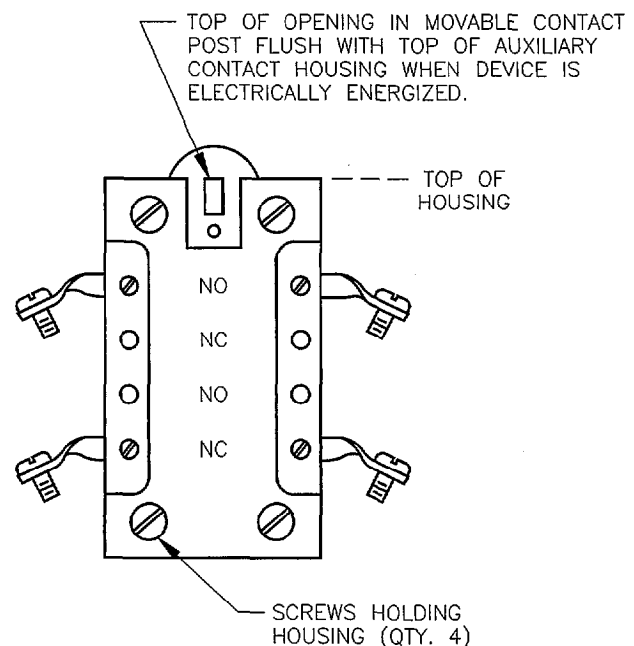

Figure 4-1. Auxiliary Contact Alignment, IC5181 Contactors
5. Examine the alignment of the auxiliary contacts (see Figure 4-1). Check the alignment of any IC5181 contactors, and of any IC5182 ac relays. If required, adjust as follows: